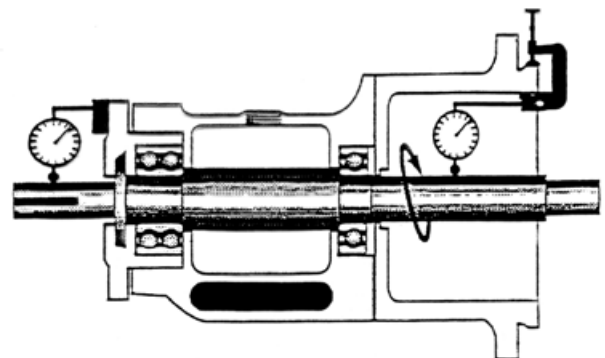

Figure 43 - Using dial indicators to check shaft runout
2. Check total indicated run out, it should not be more than $0.003''$ (0.08mm) (Figure 43).